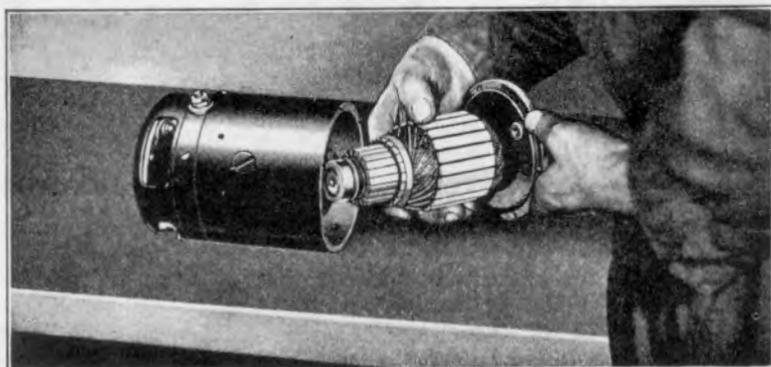

Fig. 452
- 907 Armature assembly, which comprises the generator head, armature together with large and small bearings can now be withdrawn from yoke (See Fig. 452).